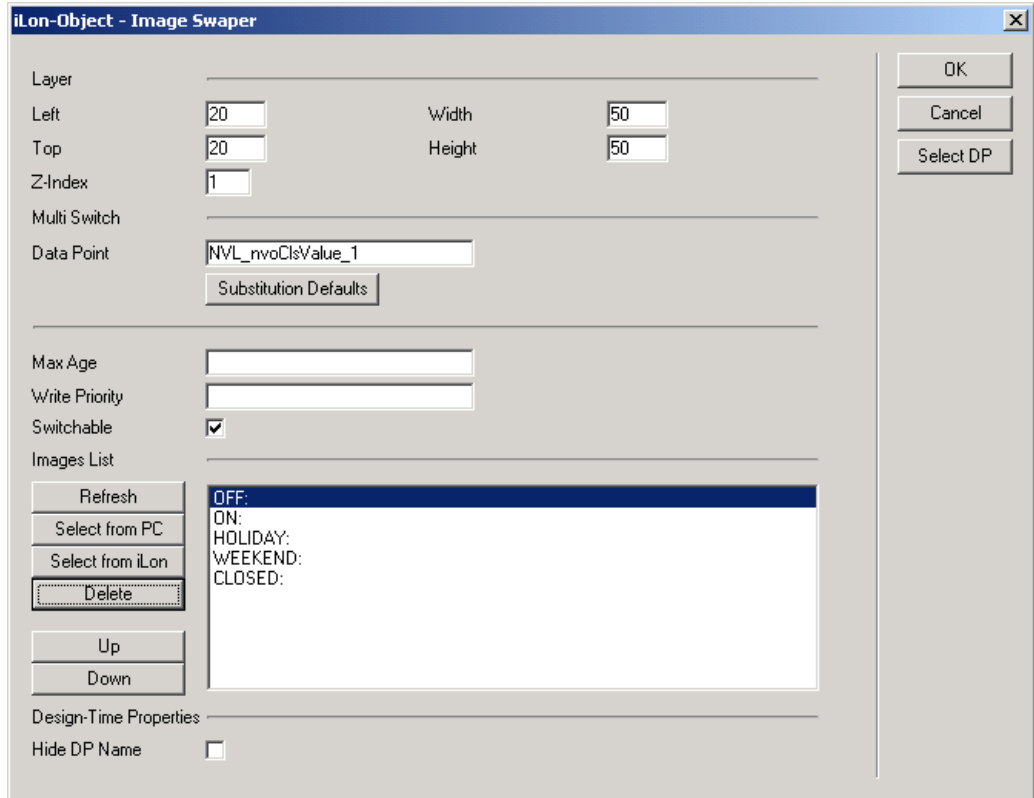

Figure 13.42 Data Point Presets
4. When you have selected a data point and returned to the **Image Swapper** dialog, the preset values defined for the data point will be listed in the Images List at the bottom of the dialog, as shown in Figure 13.42.
For example, consider the image swapper created in Figure 13.42. If the data point is set to OFF and a user clicks the image, it will be set to ON, the next value in the list. If the user clicks it again, it will be set to HOLIDAY. If the user clicks it again, it will be set to WEKEND, and then CLOSED, and so on. When it reaches the bottom of the list, *iLON Vision* will start over from the top.